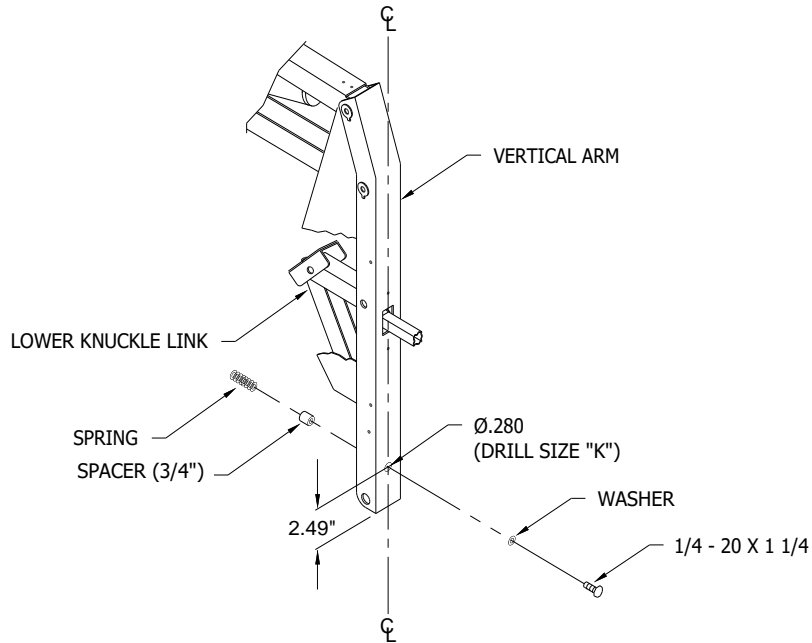
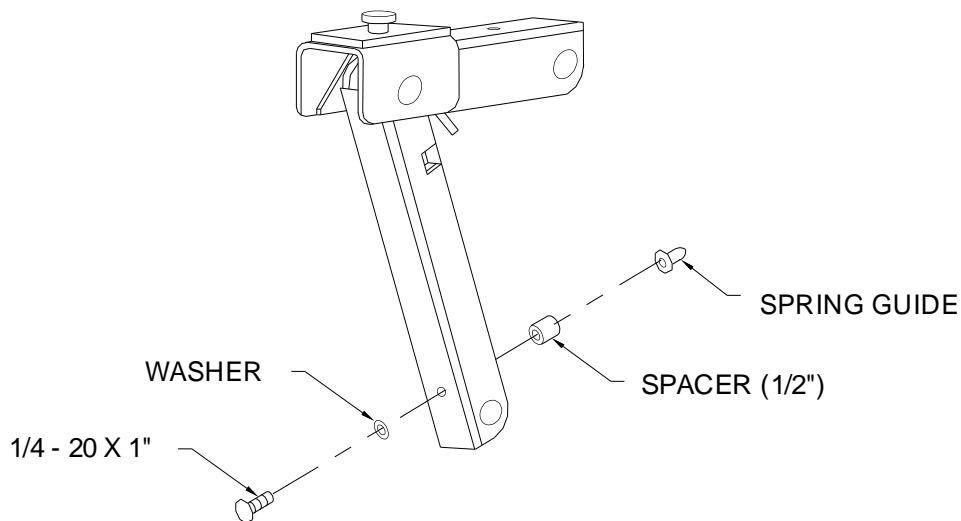

FIGURE 1: K-1100 SERIES INSTALLATION: KICK-OUT SPRING
FIGURE 3: LOWER KNUCKLE LINK HARDWARE INSTALLATION
- b. **Refer to Figure 1.** Locate mounting hole locations on vertical arms as illustrated on.
1. **Refer to Figure 1.** Using 1/4-20 X 1 1/4 bolts and washers provided, install spacer (3/4" L) and spring inside vertical arms.
2. **Refer to Figure 3.** Install spacer (1/2" L) and spring guide on bottom face of lower knuckle link using 1/4 - 20 x 1 bolt and washer.
1. Install spring, spacers and spring guide as in **Figure 1** and **Figure 3**.